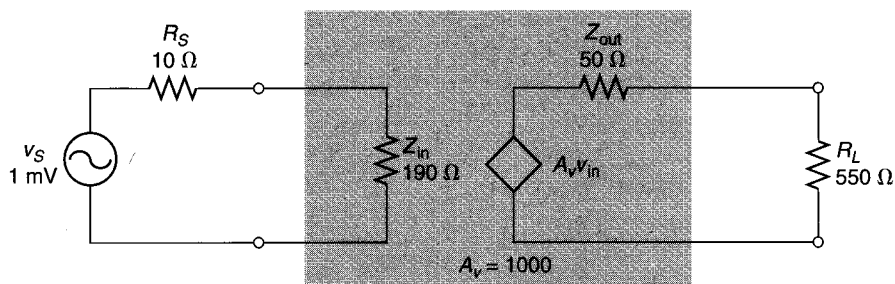

FIGURE 8.30
37. Calculate the *effective* dB power gain of the circuit in Figure 8.30.